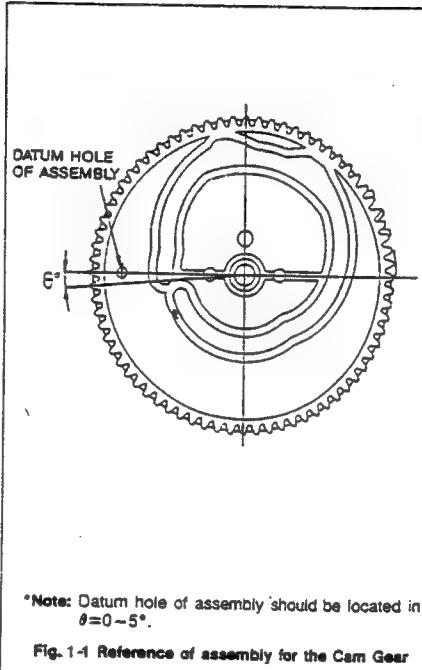

Fig. 1-1 Reference of assembly for the Cam Gear
- 2) Make sure of the assembly position among the Cam Gear and several parts before assembling the L/C Bracket Total Ass'y (refer to Fig. 1-1,2,3,4).